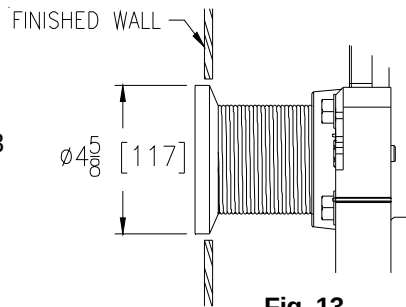

Fig. 13
14. Finished wall should be installed. Ensure appropriate size opening is made for coupling. For EZ-Set™ Coupling hole sizing See Fig. 13